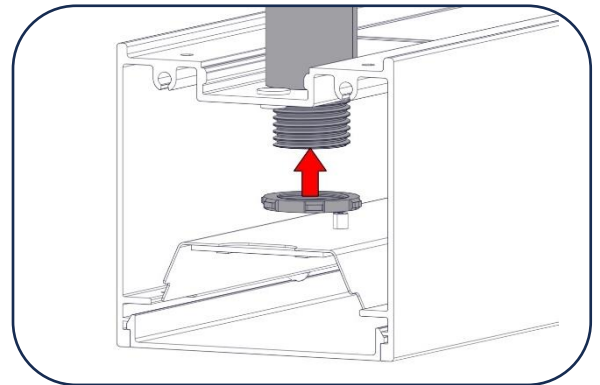

Figure 6
16. Secure the fixture to each Stem using the included 1/2" lock nuts. [Figure 6]